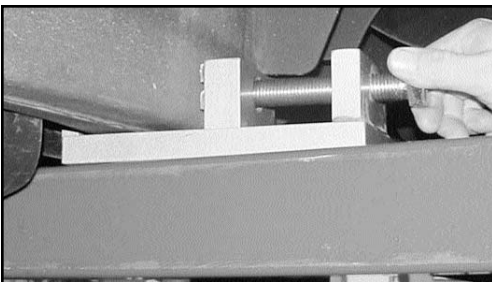

Figure 3
4. Lower vehicle to position boxed rail in jaws of rail vise. Hand-tighten the adjustment bolt to hold the assembly in place. (See Figure 3.)